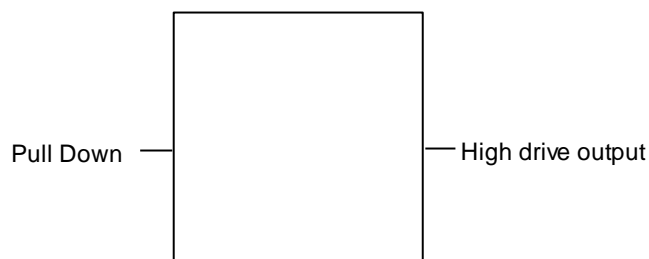

Figure 7-6 Pull-up and Pull-down Pinout Example 2
- ② Place pull-up/pull-down resistor pins away from the output pins (especially from the high current output pins). (Figure 7-6)